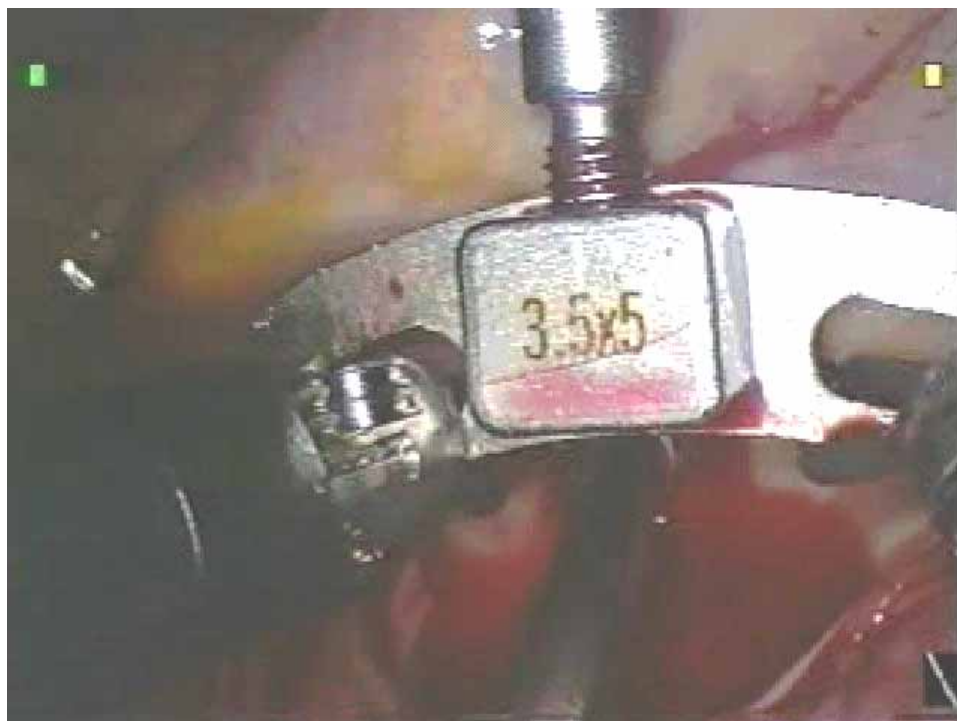

Figure 24: Retractor handle screwed in under 3D vision
- The *da Vinci* instruments position the blade to engage the spinning retractor rod under 3D-vision [Figure 24].